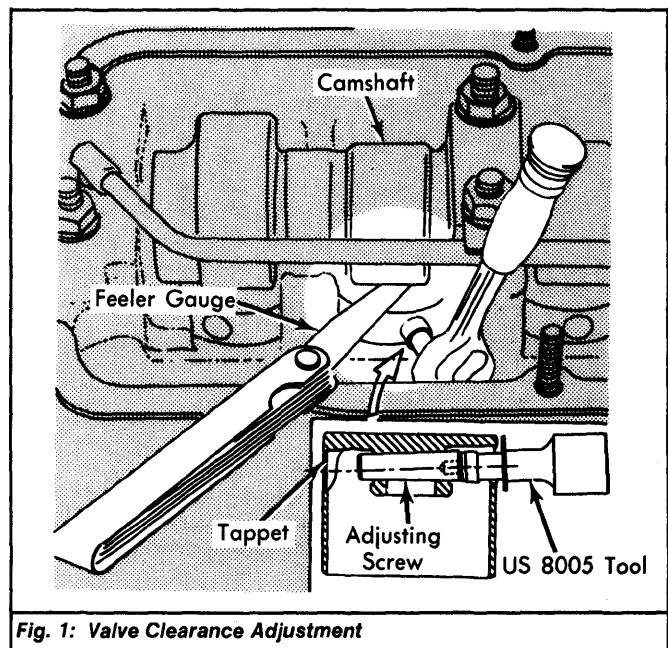

Fig. 1: Valve Clearance Adjustment
2) Correct valve clearance by making complete turns of adjusting screw, using Adjuster (US 8005). See Fig. 1. One turn changes clearances by .002" (.05 mm). Various adjusting screws are also available. Camshaft must be removed to replace screws.